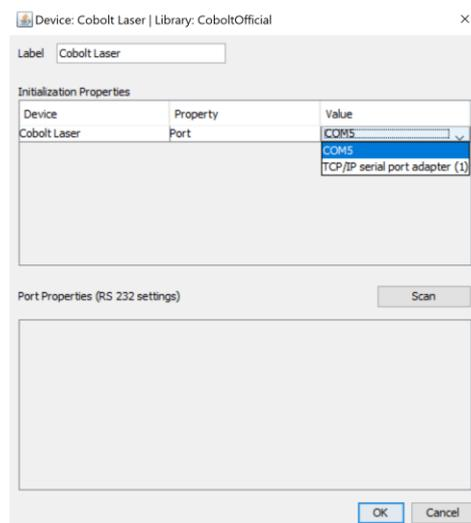

Figure 2: Select COM port
6. Select the correct COM port for your laser. (Figure 2)